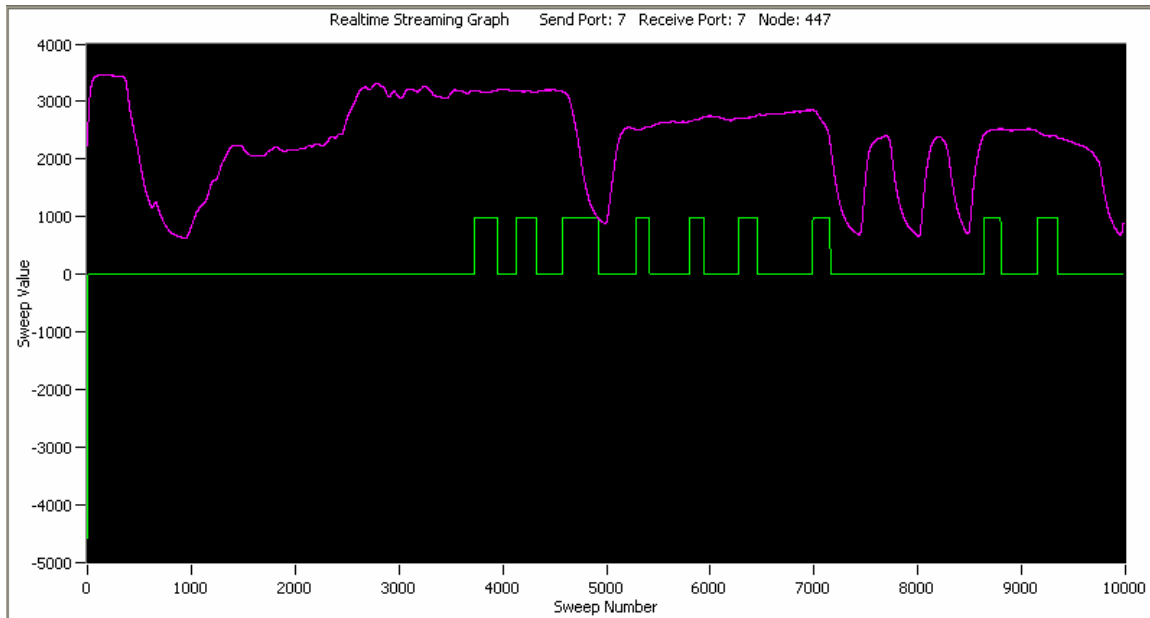

Figure 5
- During the streaming, push in and release several times, the button on the edge of the Tester Board to shunt the resistor in and out of the stream. This will appear as a stepped (green) line as shown in **Figure 5**.
- During the streaming move your finger over, off and around the photocell to change the light passage. This will appear as a wavy (purple) line as shown in **Figure 5**.